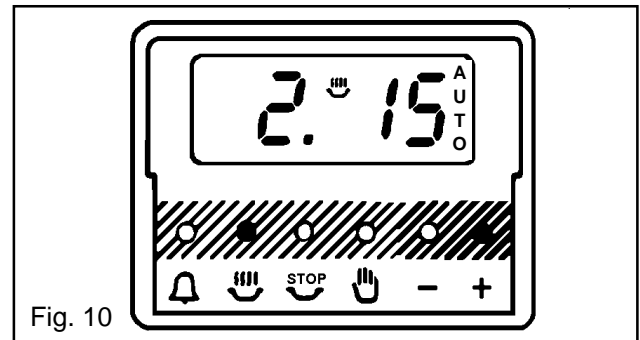

Fig. 10
- iii) To set the length of cooking time, press the cooking hours button (☁) depress the increase control (+) until the required length of cooking time is displayed, e.g. 2 hrs 15 mins as Fig. 10. Depress the decrease control (-) if necessary.